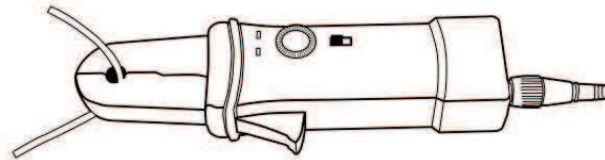

Figure 2: Connecting the current probe
4. Connect the probe to the circuit by opening the jaws with the Jaws Opening Lever and clamping around the conductor (see Figure 2).